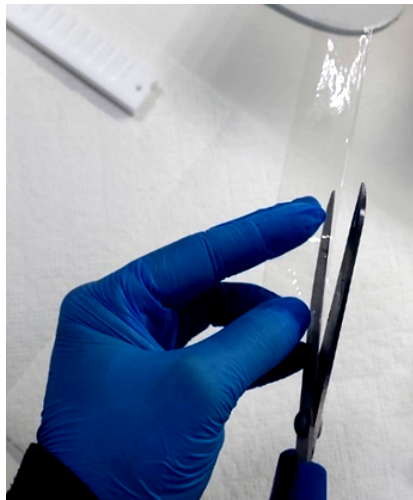

Fig. 1. Scheme of cutting the dialysis membrane before soaking.
- 4.1 Before the test, cut off the required amount of the membrane strip, cut it lengthwise so that after soaking, they are divided into two single strips (Fig. 1). Place the membrane in